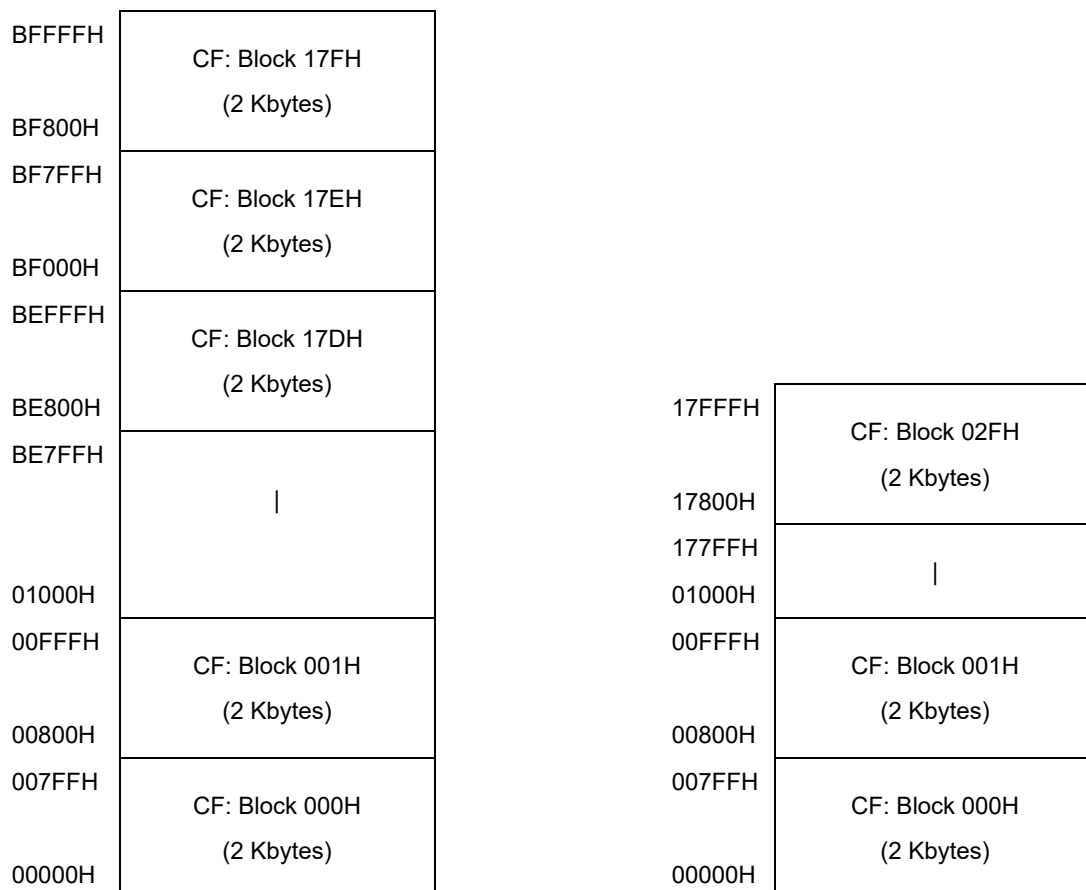
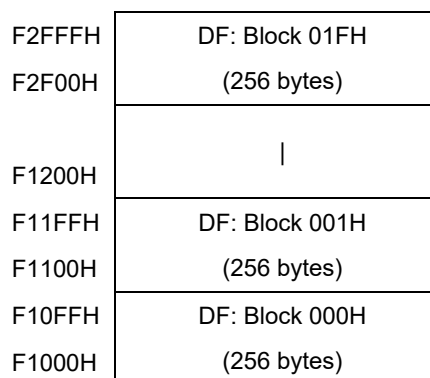

Figure 2-5 Blocks in the Code Flash Memory
Figure 2-6 Blocks in the Data Flash Memory
Figure 2-5, and Figure 2-6 shows the allocation of blocks in code flash memory (CF), and data flash memory (DF). Refer to the user's manual of a target device for allocation of blocks for other devices.
(1) R7F100GxN (Code flash memory: 768 Kbytes)
(2) R7F100GxF (Code flash memory: 96 Kbytes)